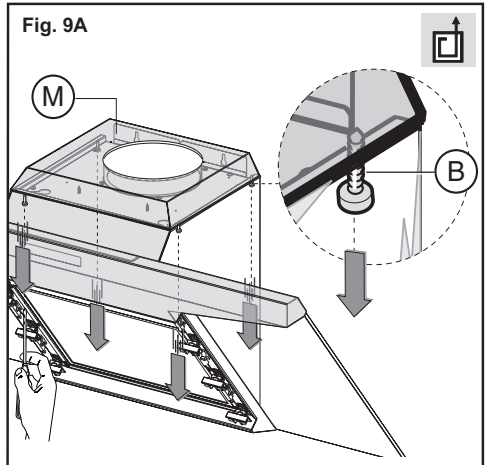

Fig. 9A
If the appliance has a lid, remove it by removing the 4 screws **B** as shown in Fig.9A.
- Remove the 4 screws **B** as shown in (Fig.9A).
- Fix the lid once again by using the 4 screws previously removed in (Fig.9A).